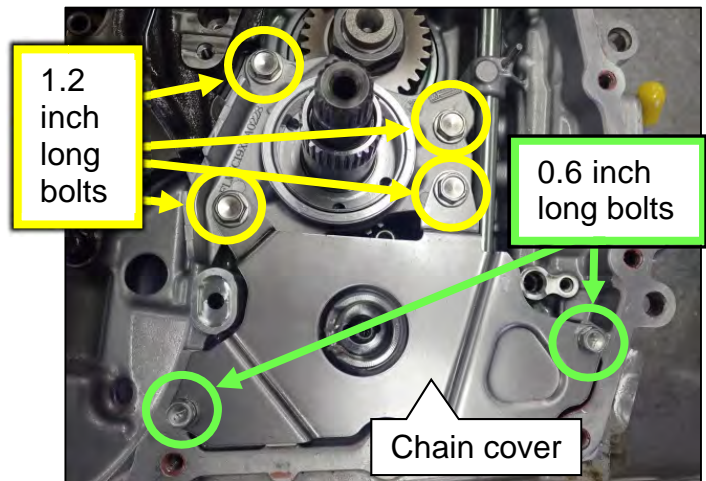

Figure 175
139. Install the original chain cover and the six (6) original bolts, and then tighten (Figure 175).